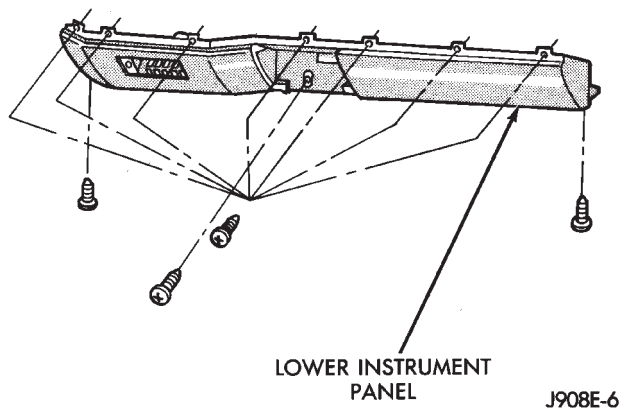

Fig. 12 Lower Instrument Panel—XJ Vehicles
- (1) Disconnect battery negative cable.
- (2) Remove the lower instrument panel (Fig. 12) and continue with step 4.
(4) **XJ vehicles** — install the lower instrument panel (Fig. 12)